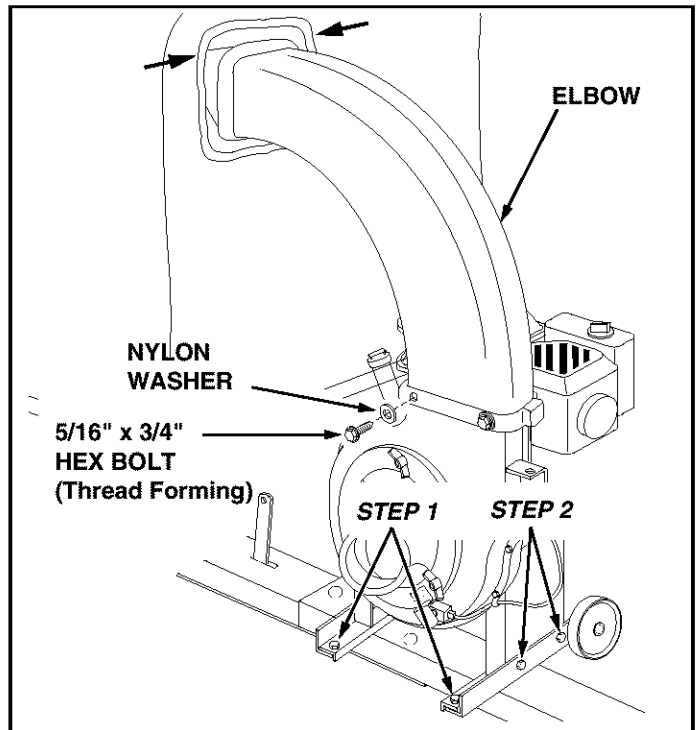

FIGURE 17
- Assemble the elbow to the impeller housing using four 5/16" x 3/4" thread forming bolts and four nylon washers. Push while turning to help start the bolts into the unthreaded holes. **Tighten**. See figure 17.